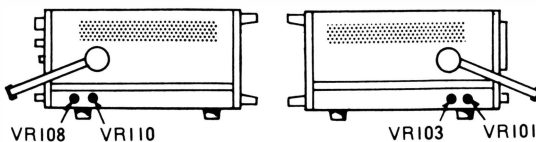

Fig. 50
6. VARIABLE ATT DC BAL Adjustment (Fig. 50)
7. STEP ATT DC BAL Adjustment (Fig. 50)
9. VARIABLE ATT DC BAL Adjustment (Fig. 50)
10. STEP ATT DC BAL Adjustment (Fig. 50)